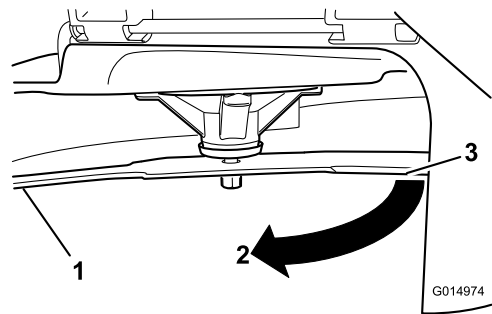

Figure 97
3. Measured distance between blade and the surface (A)
4. Rotate the same blade 180 degrees so that the opposing cutting edge is now in the same position (Figure 97).